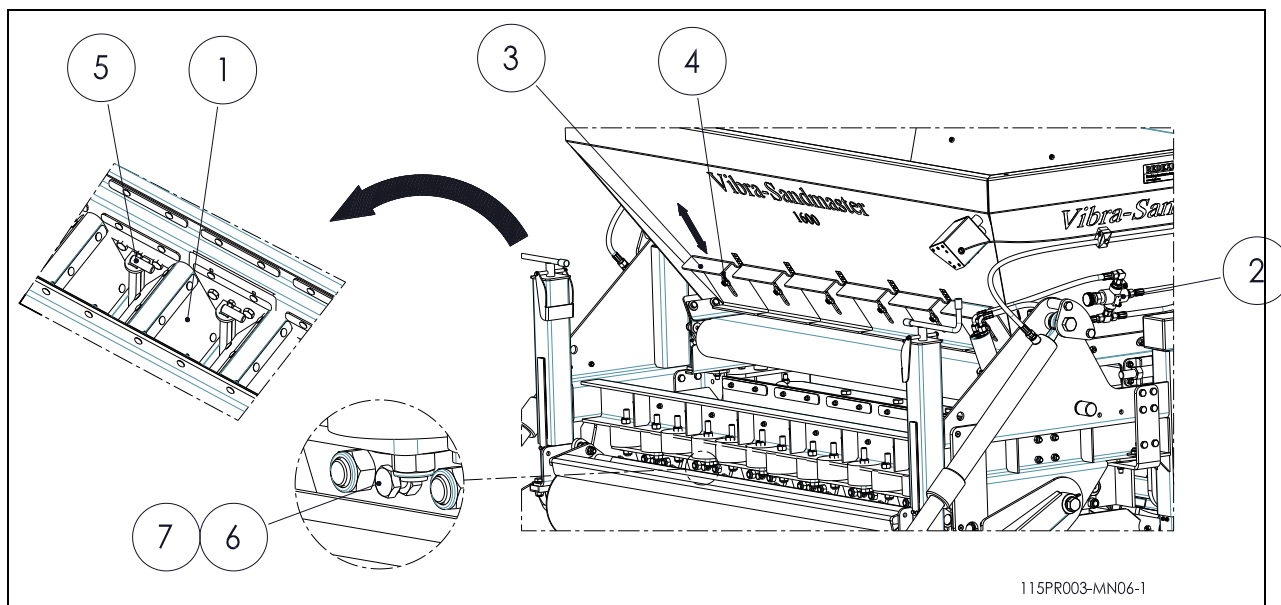

Fig.11
- **Setting by adjusting the speed of the conveyor.** (Fig.11)
- **Setting per filling coulter.** (Fig.11)
– **Setting of the coultter pin. (Fig.11)**